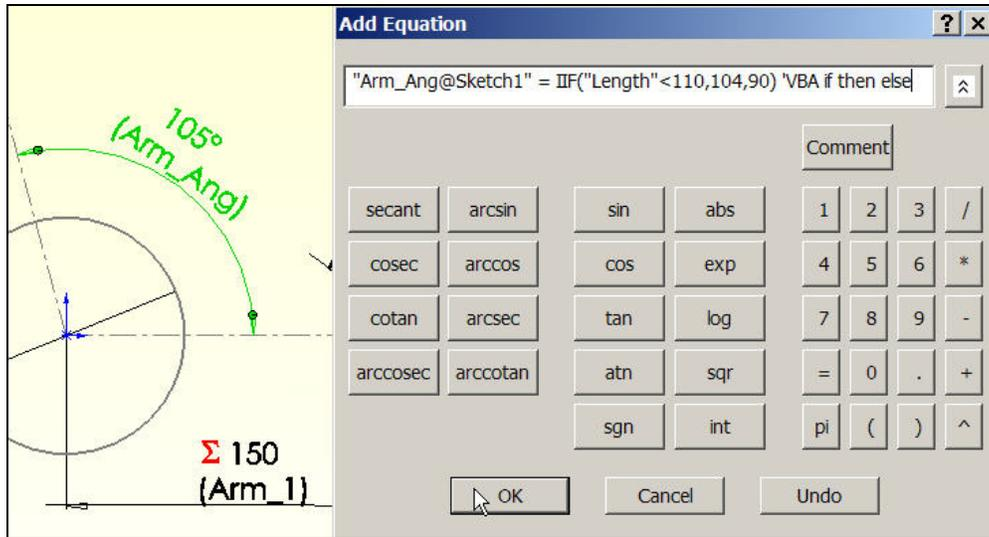
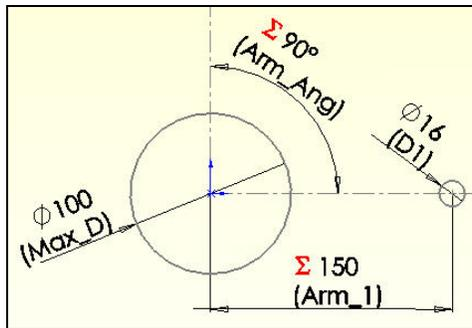

Figure 9 A new equation tied to parametric constant “Length”
Figure 10 Equation 3 activated via a Rebuild
The actual expression is seen in Figure 9, along with a user comment. Hitting **OK** places the third equation in the **Equations panel**. However, this new equation does not take effect until the part is rebuilt. Then the angle assumes the desired value, and the **equation symbol** appears in front of the dimension value to indicate that it depends on an expression. Those two changes are displayed in Figure 10. (See the appendix for other VBA equation examples.)
2. Change the name of the drill hole dimension (D1, Figure 10) to **Drill_D**.